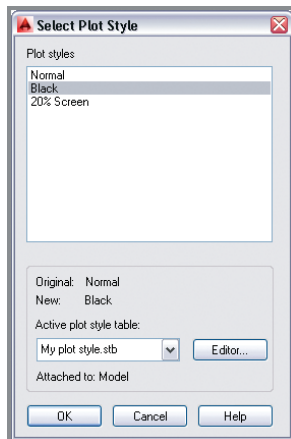

FIGURE 14.17 Selecting a plot style to assign to a layer
2. Type `LA` (for Layer), and press Enter. Right-click any one of the layer names in the Layer Properties Manager that appears, and choose Select All from the context menu. Click the word Normal in the Plot Style column. The plot style table you created earlier (`My plot style.stb`) is selected. Choose Black in the Select Plot Style dialog box (see Figure 14.17). Click OK. Now all the layers will plot in black.